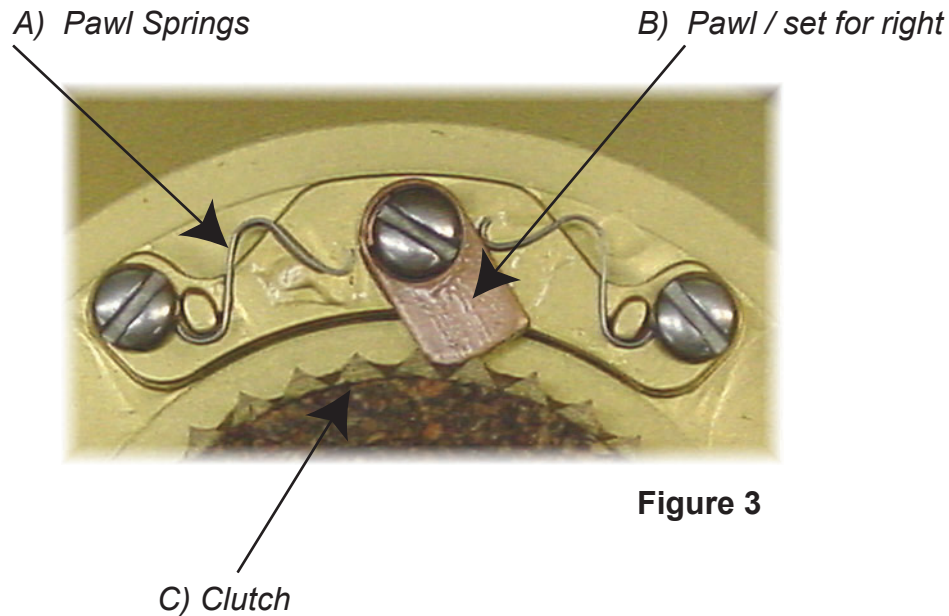
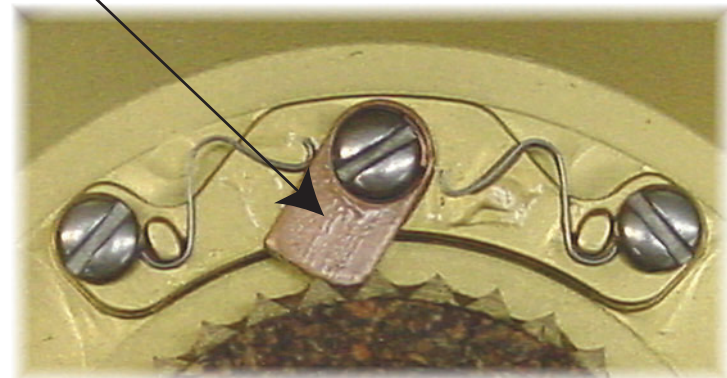

Figure 3
Figure 4
3. The converted right-to-left hand pawl/clutch assembly should look similar to Figure 4 for left hand retrieve and Figure 3 for right hand retrieve.